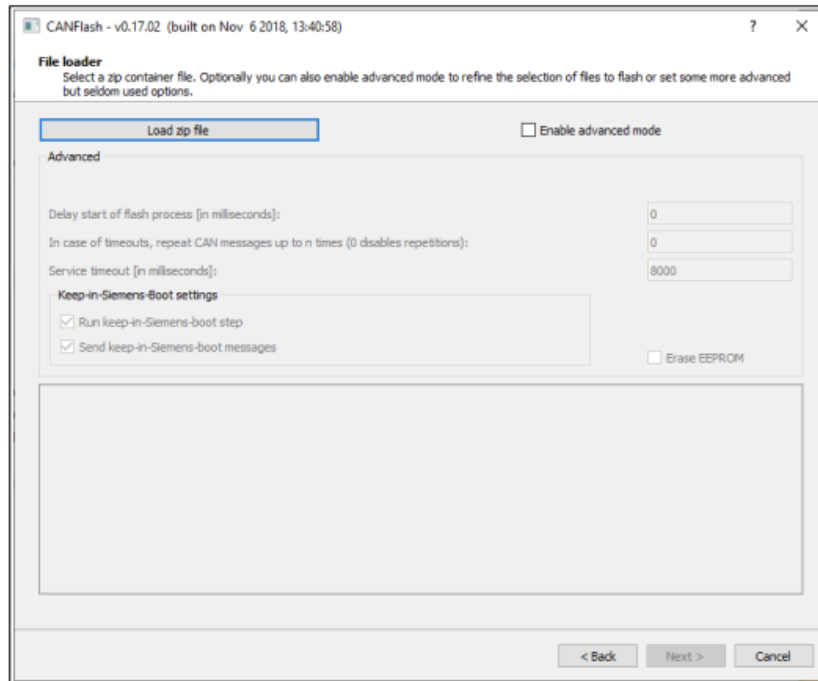

Figure 3: Load zip file in CANFlash
13. Click **Load zip file**. Select **SS100214_Official Release Bootloader 5.11.zip** (see figure 3). Ensure the knob on top of 1144289 is set to inverter ID 1. Click **Next** when complete.